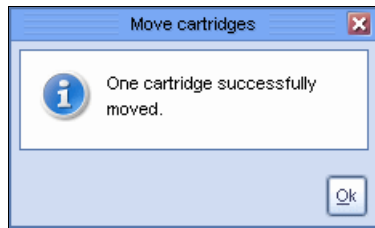

Figure 10-117 Move cartridges window
7. Click **OK**. The cartridge is relocated to the specified location (Figure 10-117).